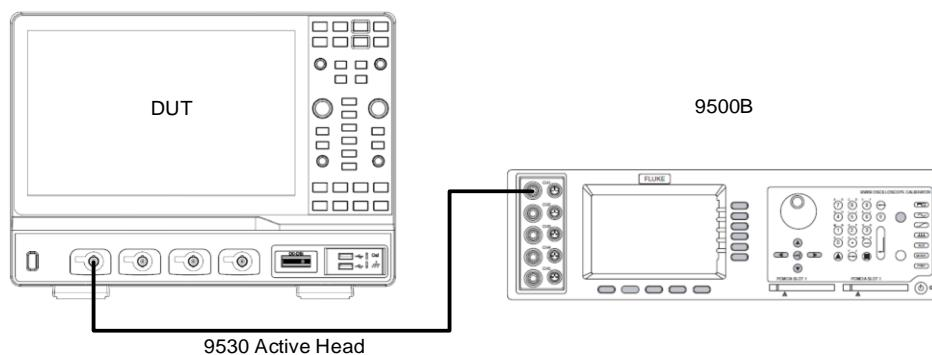

Figure 7 Test setup for DCG / Offset / Timebase...
Note: The 9530 active head in Figure 7 is connected to any channel of the 9500B, and its BNC connector is connected to the specified channel of the oscilloscope according to the test.
- Connect a selected channel of the oscilloscope to the 9500B with an active head as shown in Figure 7.